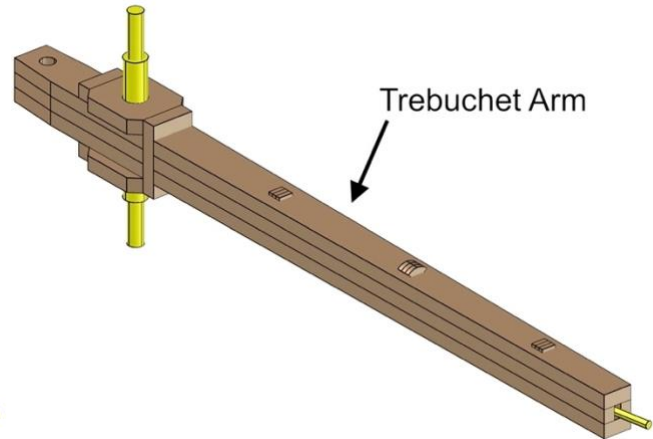

Fig. 63
- *Fig. 63* shows the completed process.